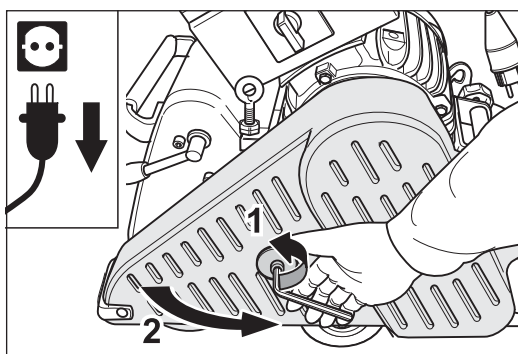

Fig. 48 Pull the power plug out of the socket and open the belt guard.
- 5 Open the belt guard (Fig. 48).